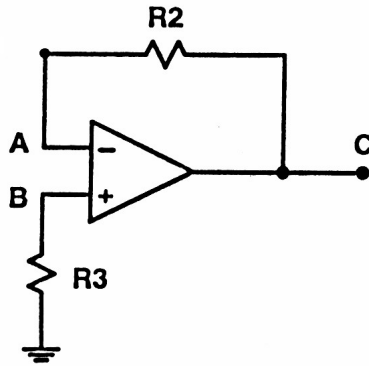

Figure 2: Circuit for the measurement of offsets.
A particular op amp has $V_{OS} = 2$ mV, $I_B = 1.5$ μ A, and I_{OS} is 200 nA, with reference polarities as defined in Fig. 2.35 and Fig. 2.36 of the Text. It is tested in the circuit shown here in Fig. 2, using the resistor values employed in 5.1.1. Find the values of V_C that are observed, namely V_{C1} , V_{C2} , V_{C3} , following the 123 notation of the instruction steps. Note that the polarity of I_{OS} is, in fact, not defined.
- **Setup:** Assemble the circuit in Figure 2, using ± 10 V supplies, with $R_2 = R_3 = 1$ M Ω .